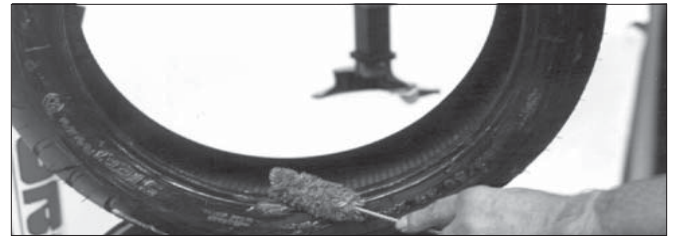

Figure 13 - Lubricate Beads
3. Lubricate tire beads liberally with tire manufacturer approved lubricant (Figure 13).